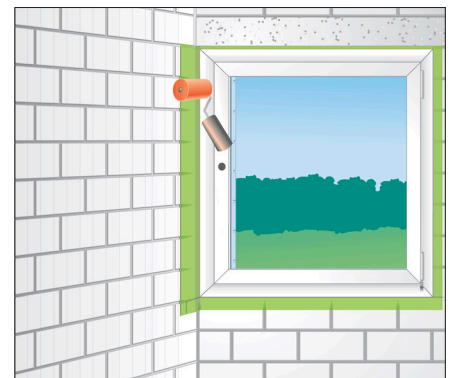

Fig 4: Consolidate the butyl bond using a roller
- Consolidate the bond using a seam roller as fig 4.